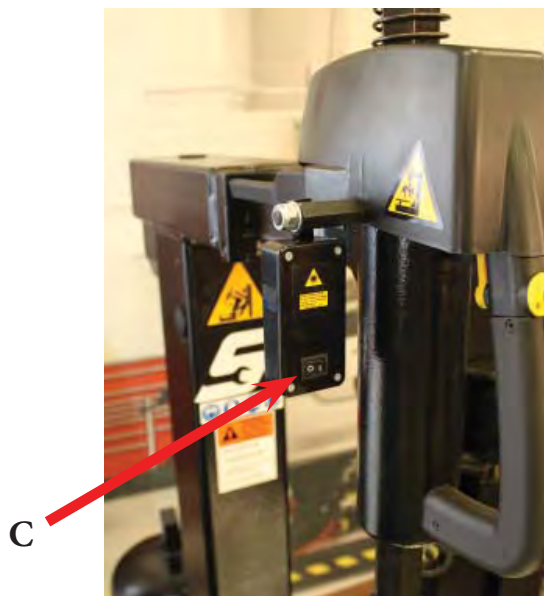

Figure 2.3-3
3. Switch on the Laser with the switch "C" Figure 2.3-3.